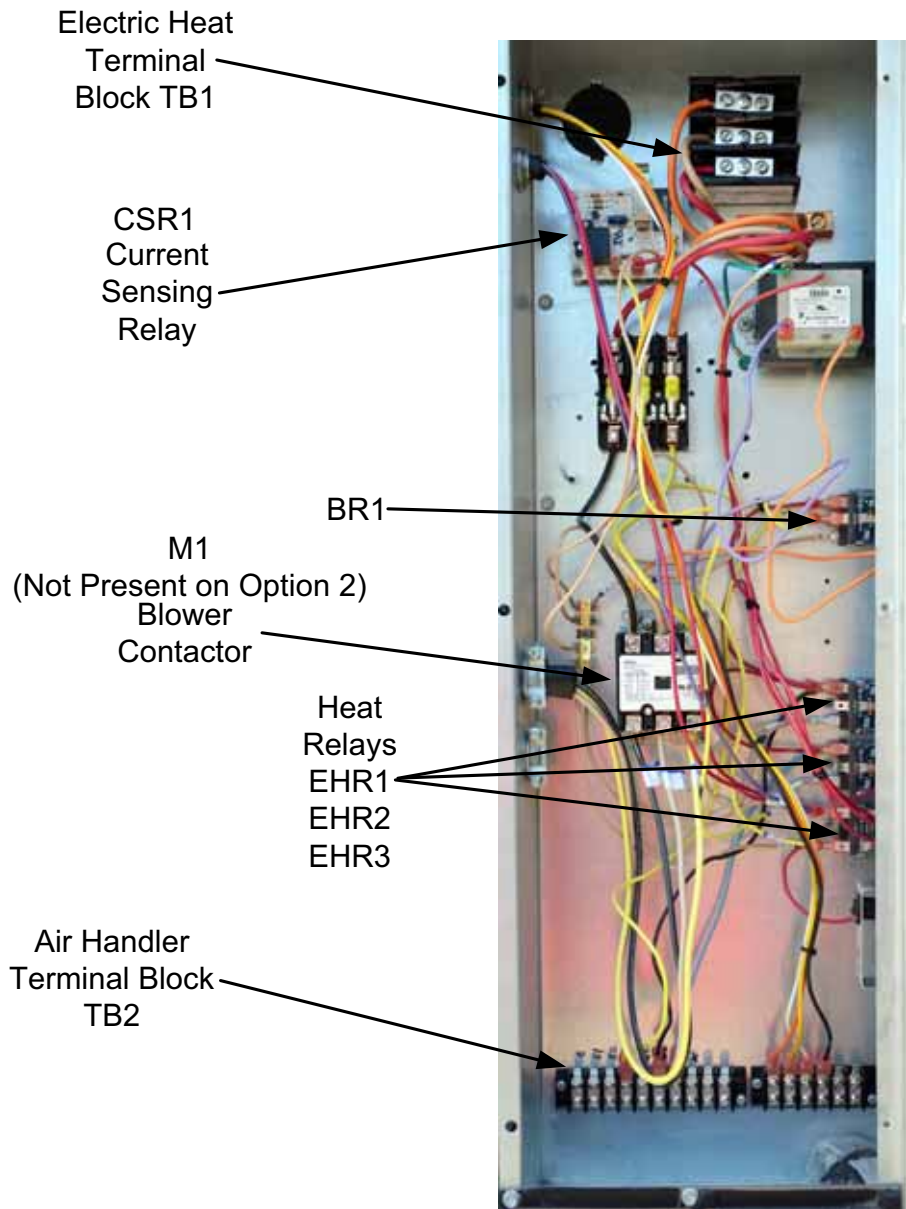

FIGURE 5 - AIR HANDLER CONTROL BOX
For VFD equipped units with the Manual Bypass option (has M1 main contactor and M6 Bypass Contactor & bypass rocker switch), Install the kit supplied DPST EHR3 relay in the lowest relay position in control box. The six relay positions are identified "from top to bottom" as BR1, RY1, RY2, EHR1, EHR2, and EHR3. See Figure 5 for EHR3 mounting position.
37. Mount and route the current sensing board CSR1's wires 834/R red from post # 2 to transformer T1's 24 VAC power supply on circuit breaker CB1, #835/Y yellow from post # 3 to the M1 contactor pilot A and 836/B brown post #1 to GND 3. and box ground GND3 respectively. See Figure 5 for CSR1 board mounting location.
NOTE: The following steps are for 2 stage heaters containing an EHR2 relay. Single stage heaters do not have EHR2. If installing a single stage heater, ignore references to EHR2. Please refer to Figure 5 for component locations and mounting.